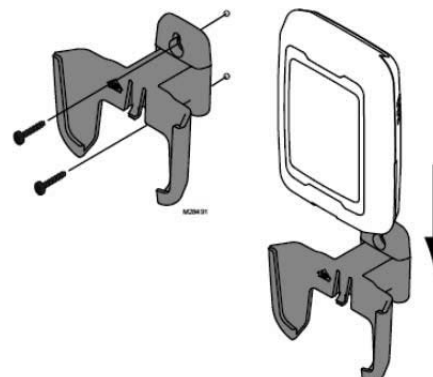

Figure 3 Mounting Sensor Bracket and Sensor
8. Mount the sensor bracket on a vertical wall at least 6 inches below any overhang. Choose a location protected from direct sunlight. See Figure 3.